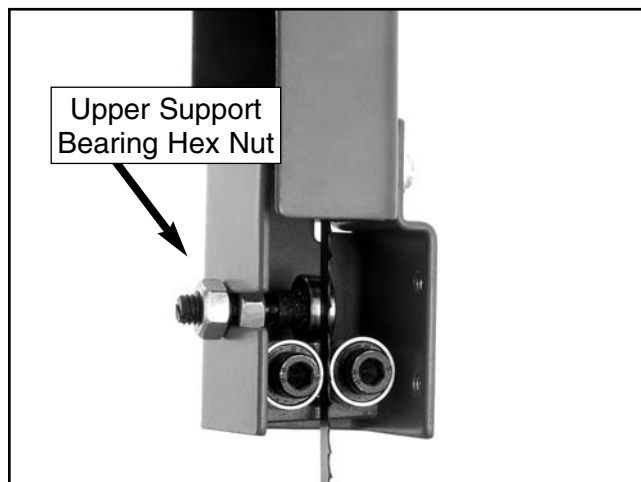

Figure 22. Upper blade guide assembly.
3. Loosen the hex nut shown in **Figure 22**.